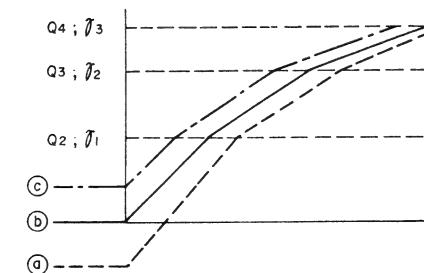

Fig. 26
In addition, if the DC level is varied by VR7 as indicated by ④, ⑤ and ⑥ in Fig. 26, the γ point will be shifted as illustrated.